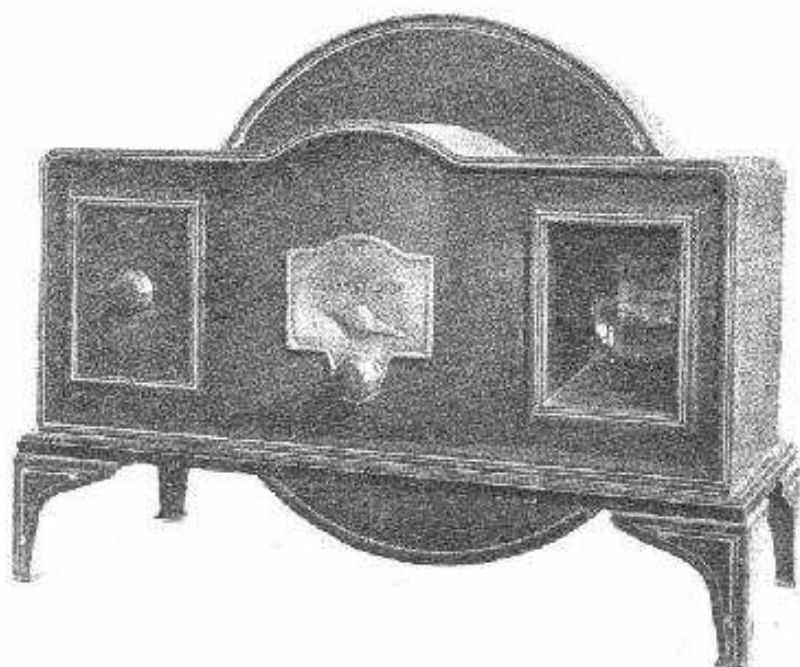

Fig. 1.—THE BAIRD DISC MODEL "TELEVISOR."
**T**HE ordinary Baird disc model "Televisor" (Fig. 1) is essentially quite a simple piece of apparatus capable of reproducing television images of good quality in the home. It serves the eye in a manner similar to that in which the loud speaker serves the ear, but, like the loud speaker, it cannot give of its best unless the signals passed to it are above suspicion.